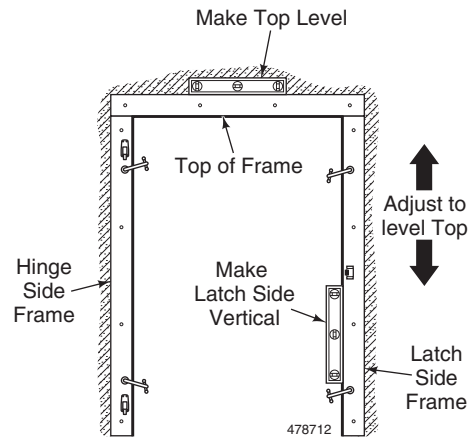

Figure 6
5. Loosen the clamps and adjust the latch side of the frame to vertical and parallel to the hinge side. Tighten the clamps. See *Figure 6*.